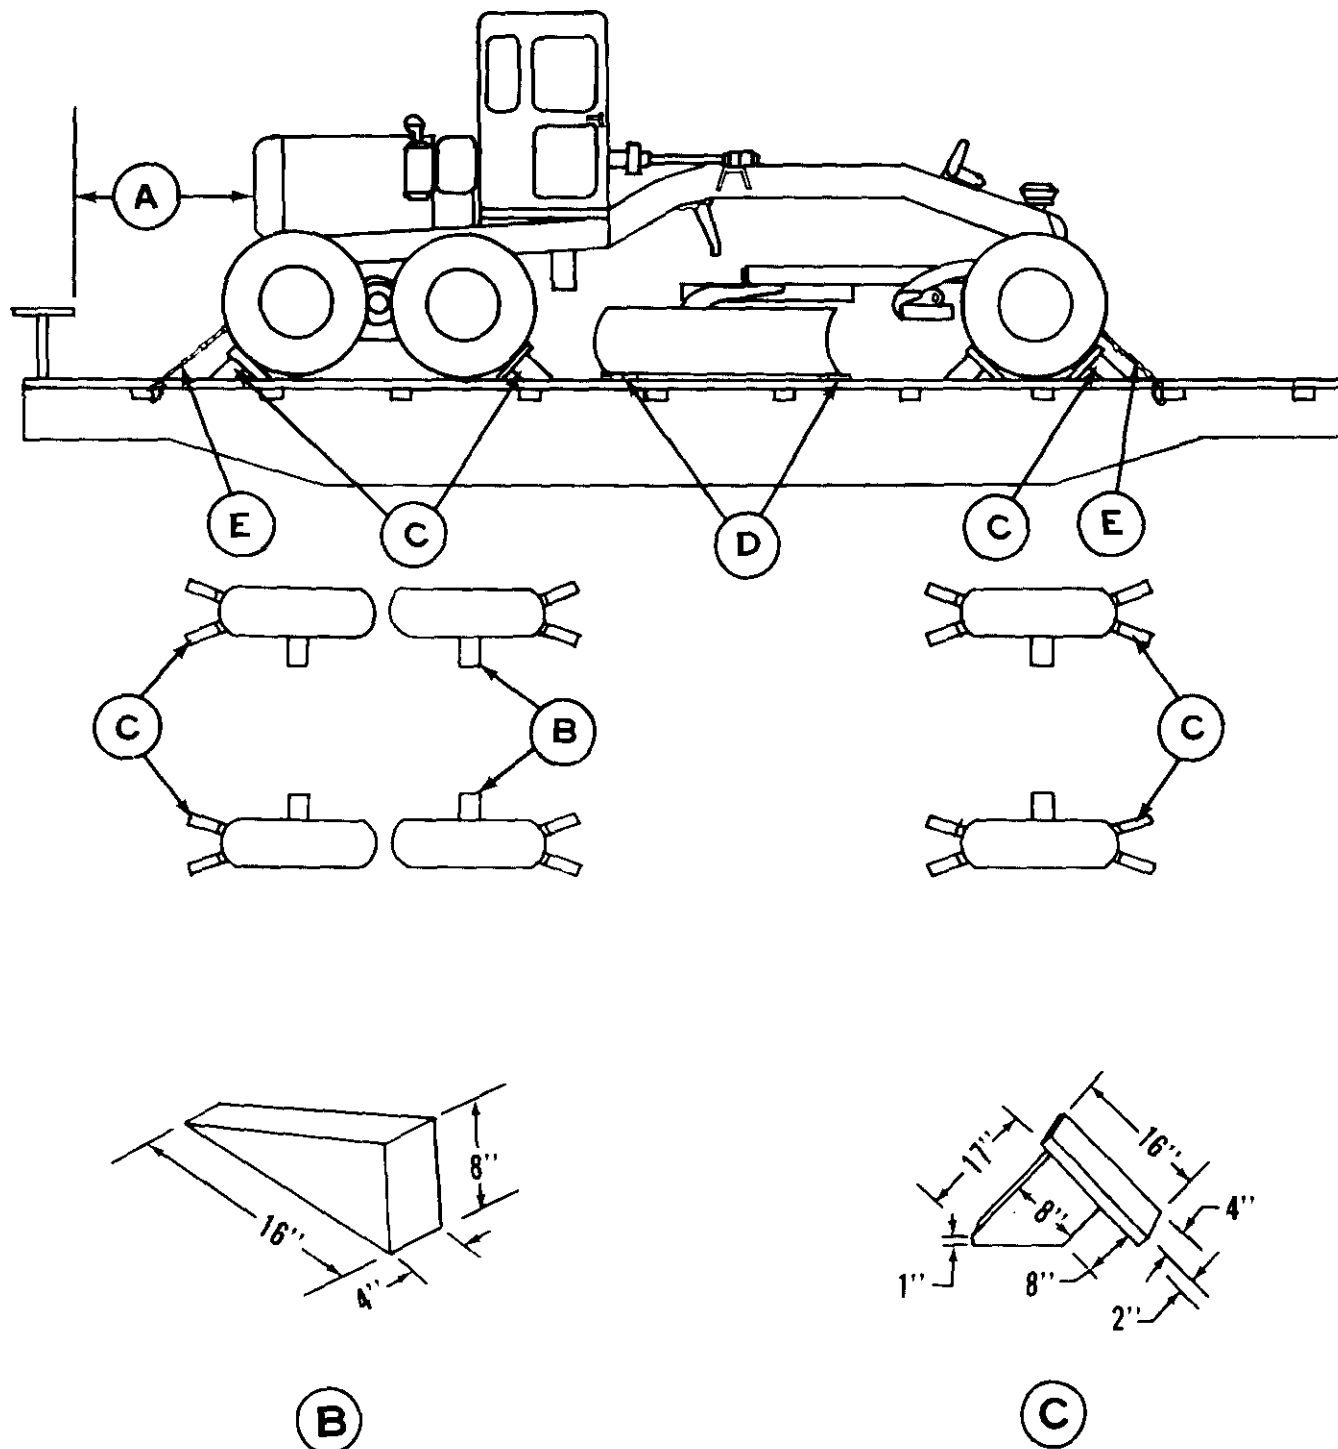
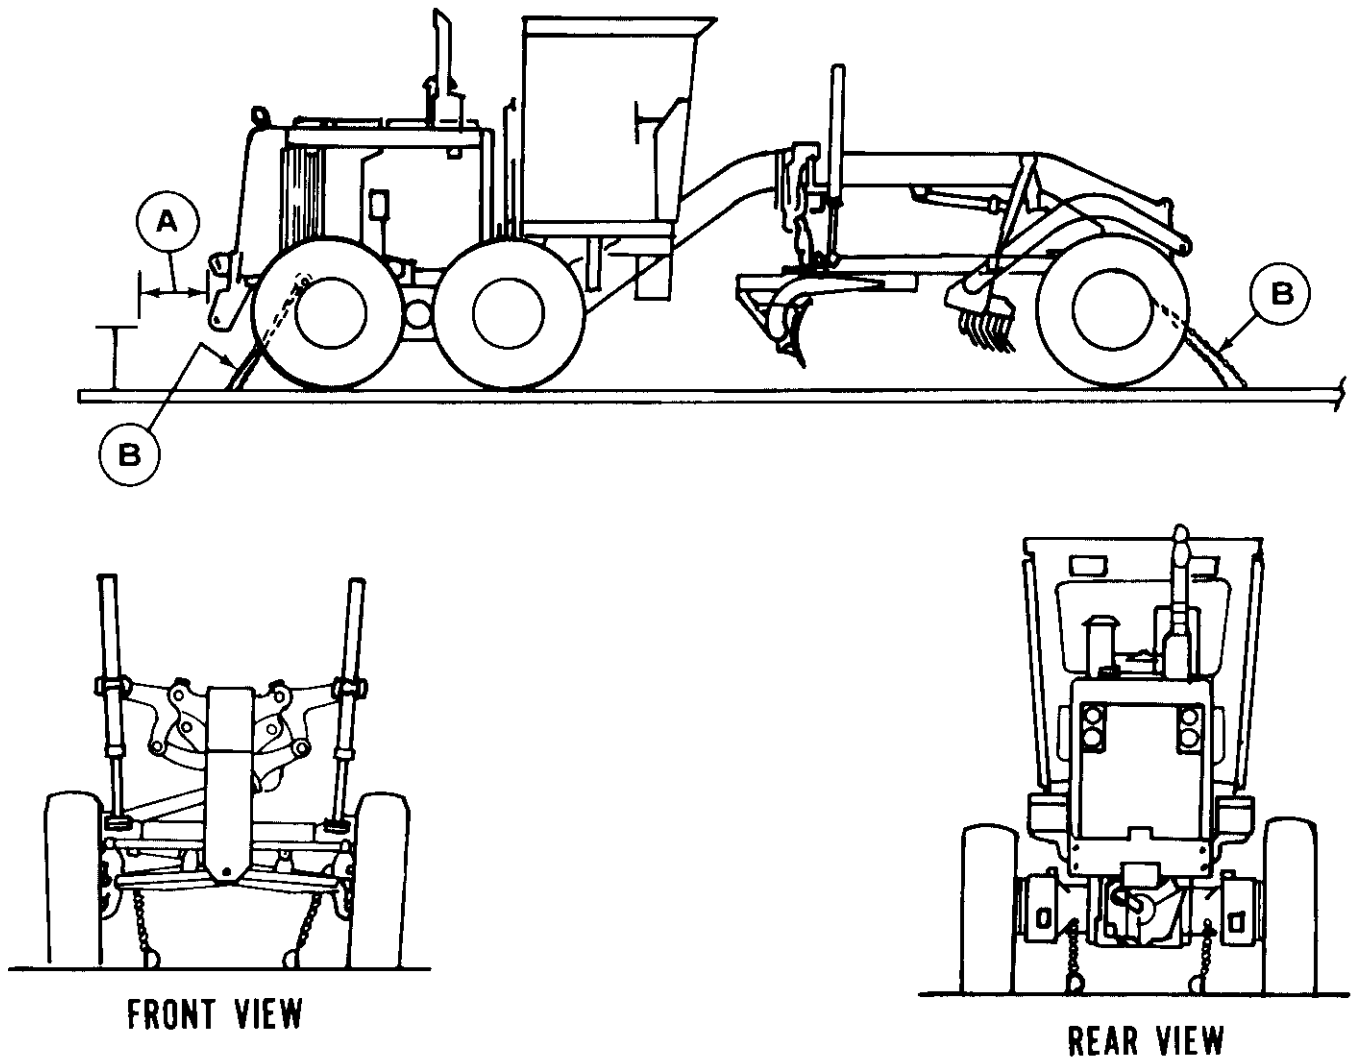

Figure 7-1. Model 130G grader loaded on a general purpose flatcar.
Figure 7-2. Model 130G grader loaded on a chain tiedown flatcar.
The transportability guidance contained in this section is applicable when the model 130G grader is transported on CONUS railways. Figure 7-1 shows the model 130G grader loaded on a wooden deck, general-pur-
(Fig 7-1)*
- (1) Use a qualified, experienced driver to check the brakes. Secure the scarifier in the up position.
- (2) Ensure that the articulating pivot pin and the front wheel lean locking bolt are engaged.
- (3) Use an experienced guide. The guide should be on the next car over from the car to be loaded; never on the same car. Also, the guide should never back up.
- (4) Use ground guides on each side of the grader, in clear view of the primary guide on the car.
- (5) Use only the guide on the car to signal the driver.
- (6) After the grader is stopped in the loading position on the flatcar, place the transmission shift lever in the neutral position and set and wire the handbrake.
(7) Lower the blade onto the sleeper shoring to protect the top of the flatcar. Make sure the blade is turned well within the width of the flatcar.
(8) Have the rail inspector check the positioning of the grader. The center of balance and position of other loaded equipment must be considered.
c. *Securing.* The procedures for securing the grader on the flatcar (fig 7-1) are in accordance with the American Association of Railroads. The sequence of securing the grader is as follows: (1) Place wire rope or chains or tiedowns but leave them loose.
(2) Make sure the blade is positioned firmly on the bearing pieces.
(3) Place chocks in front of front and middle tires, and nail the chocks in place.
(4) Tighten front wire rope or chains.
(5) Place chocks in back of front and rear tires, and nail the chocks in place.
(6) Tighten rear wire rope or chains.
(7) Double check to make sure bearing pieces are secure under the blade. Nail shoring in place.
(8) Check to make sure wire rope or chain tiedowns are tight.
(9) Make sure all windows are secured, and wire the door handle shut from the outside.
(10) Have the rail inspector check before considering the job complete.
d. The model 130G grader can be transported also on flatcars equipped with center tiedown rails. Figure 7-2 shows the grader on a chain tiedown flatcar. Table 7-3 is the bill of materials and general instructions for the tiedown of the grader on a chain tiedown flatcar.